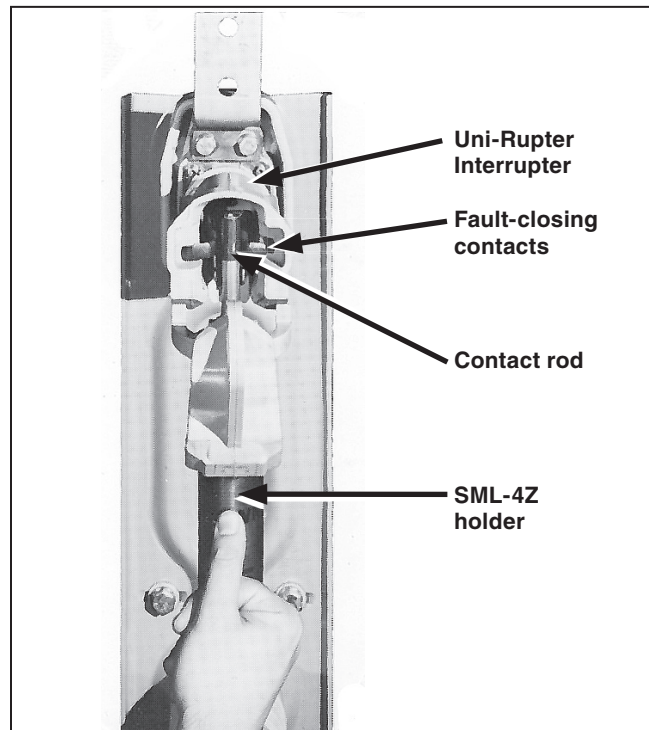

Figure 2. “On center” approach of the contact rod to the fault-closing contacts of the Uni-Rupter Interrupter.
**STEP 2.** Install an SML-4Z Fuse Holder (with an S&C Silencer attached, as directed in S&C Instruction Sheet 252-525) in the hinge-and-lower-contact assembly and slowly close the holder into the Uni-Rupter Interrupter. Make sure the contact rod on the holder makes an “on center” approach to the fault-closing contacts of the Uni-Rupter Interrupter. See Figure 2. If adjustment is necessary, slightly loosen the two bolts securing the hinge-and-lower contact assembly to its insulator and, using the holder as a lever, bring the hinge-and-lower-contact assembly into proper alignment with the Uni-Rupter Interrupter. Recheck the distance (on both sides of the Uni-Rupter Interrupter) and adjust as required so they remain within the Dimension P limits. Then, retighten both mounting bolts.